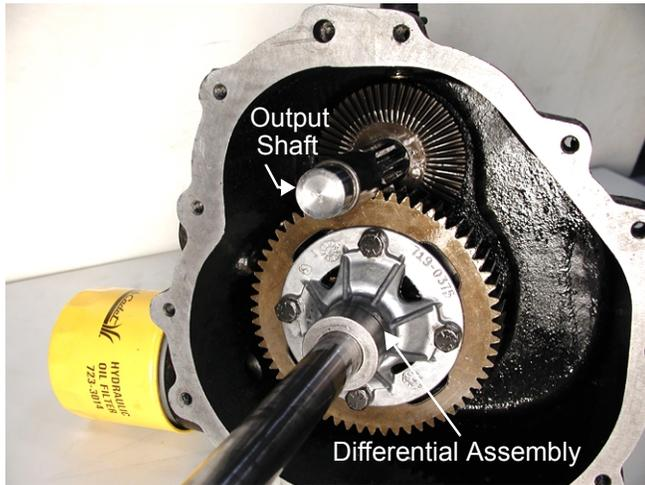

Figure 17
19. Grasp the differential assembly and the output shaft. See Figure 17.